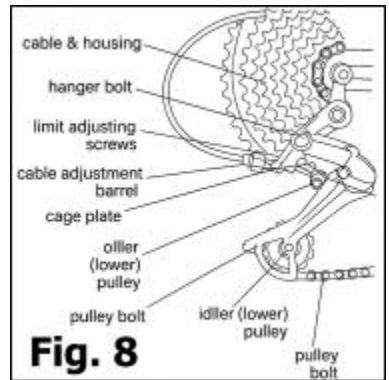

Fig. 8
The rear derailleur has two limit screws—High (H) and Low (L)—that prevent the chain from shifting too far. (Fig. 8)